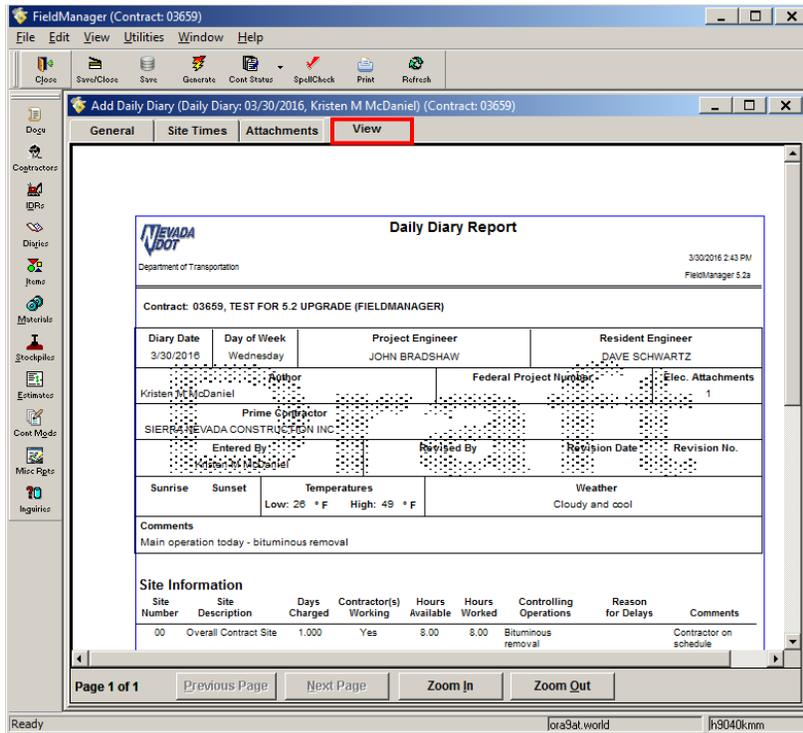

Figure 8-6. Add IDRs Window – View Tab (Daily Diary Report)
1. Click on the **View** tab to open the Draft copy of the Daily Diary Report (Figure 8-6). It is a good idea to use the View tab to check the information on a draft Daily Diary.